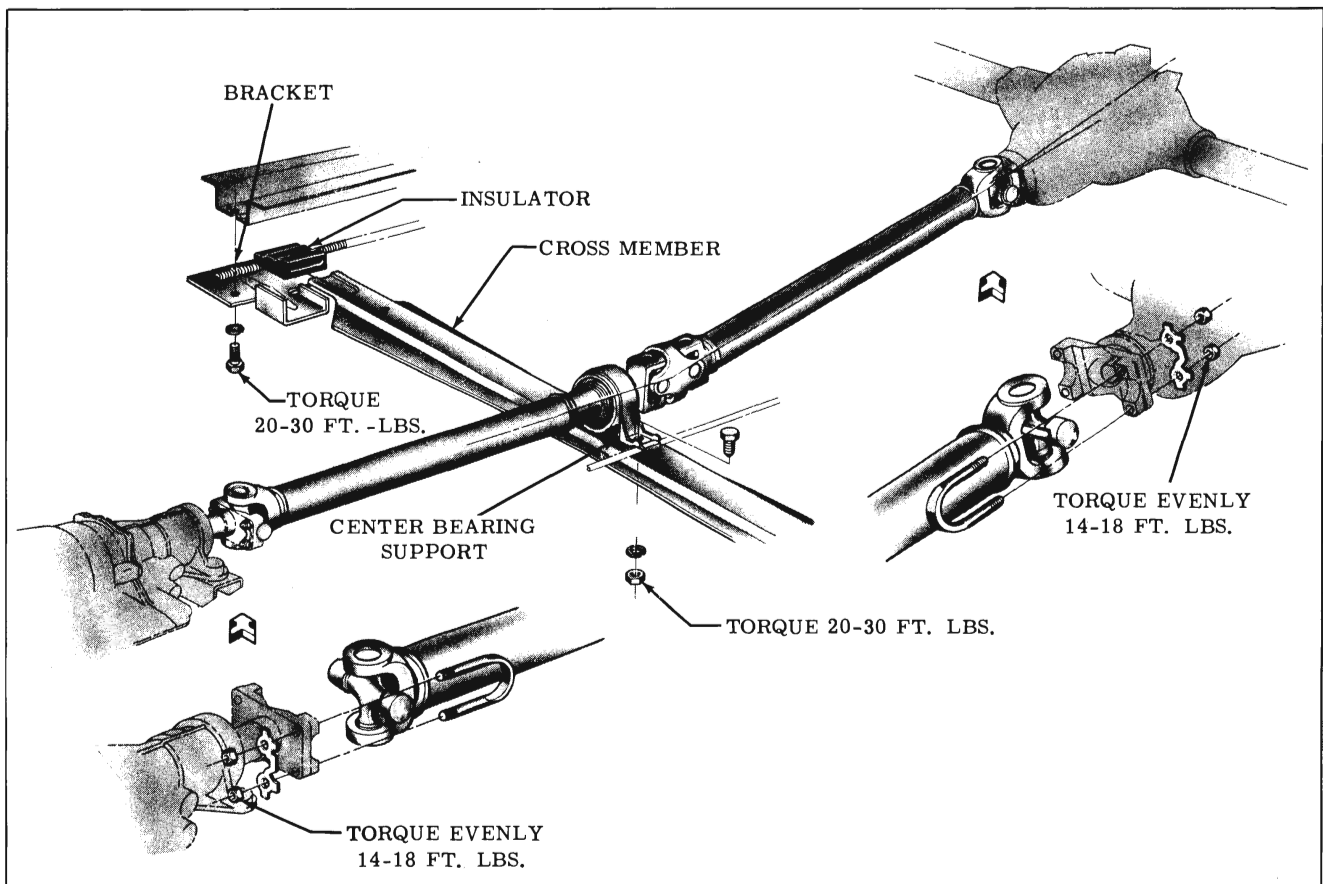

Fig. 6-139 Propeller Shaft and Center Bearing Support Installation
The center bearing support is attached to a support cross member which in turn is attached to the floor pan side rails through two insulators as shown in Fig. 6-139.
3. Remove the companion flange "U" bolts at transmission and differential and remove propeller shaft from rear side of cross member. (Fig. 6-139)